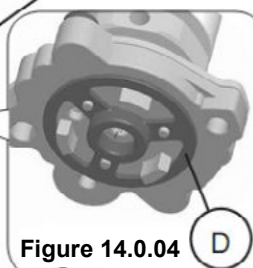

Figure 14.0.04
3. Ensure the rubber gasket (D) which is prefitted as part of assembly (E), is properly positioned, see Figure 14.0.04, otherwise fit the gasket as shown Figure 14.0.04.